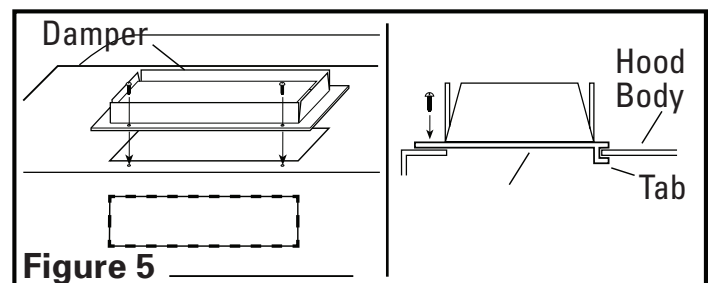

Figure 5
6. For 3-1/4" x 10" vertical or horizontal ducting, install the damper assembly to the hood by sliding the tabbed section of the damper under the hood body and securing with the two provided screws (**Figure 5**).